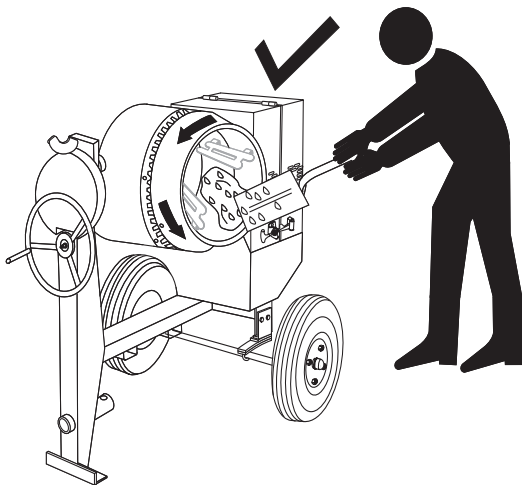

Figure 20. Filling Mixing Drum
- As the drum rotates, use a shovel (Figure 20) to place the cement mix inside the drum, add water as required. Be careful to only place the **tip** of the shovel inside the drum.